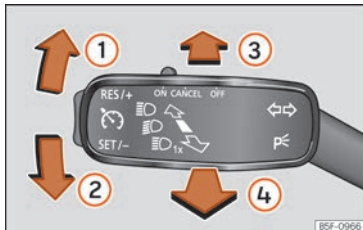

Fig. 114 Turn signal and main beam lever.
- From the base position, press the turn signal and main beam headlights lever forwards » **Fig. 114**  When the lamp  is displayed on the instrument panel display, the main beam assist is switched on.
- **OR:** while the main beam is on, pull the turn signal light and main beam headlights lever forwards » **Fig. 114** .